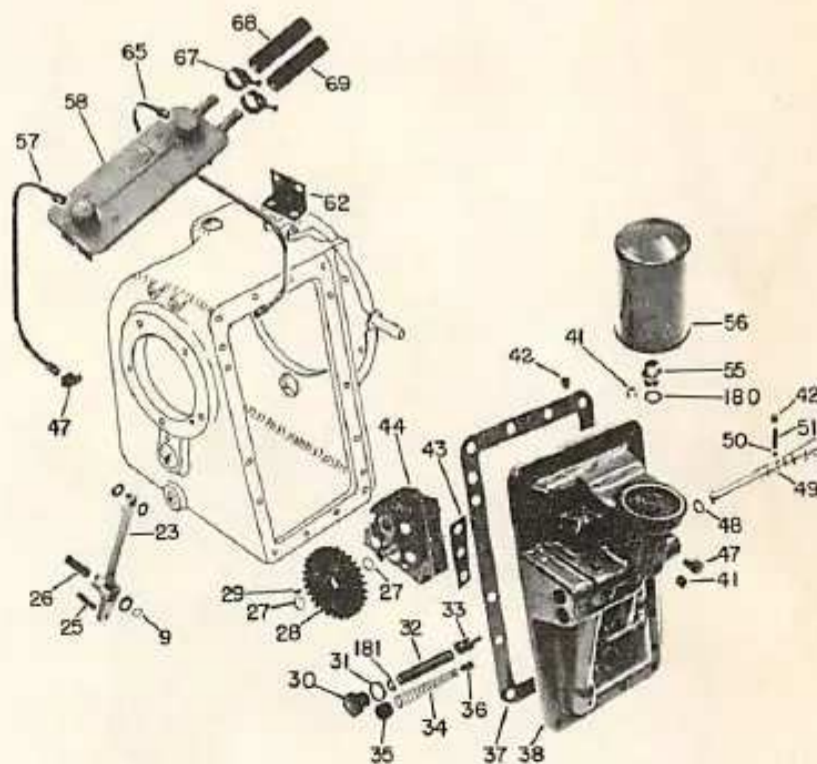

Fig. O106 — Exploded view of the early Hydra-Power drive cover showing component parts. Later cover assemblies are similar.
malfunctions of the unit are evident, add shims (181—Fig. O106) behind the regulator valve spool spring to raise pressure. Shims are 0.0359 thick and each shim will raise the pressure approximately 5 psi.
157. **CONTROL VALVE SPOOL, REGULATOR VALVE AND BY-PASS VALVE.** The control valving can be removed from housing cover as follows: Remove the Allen plug (42—Fig. O106) on top side of control valve bore and remove detent spring (51) and ball (50). Pull control valve spool (49) forward out of its bore, then remove and discard "O" ring. Remove plugs, then remove regulator valve (33) and by-pass valve (36) assemblies. Save any shims (181) which may be present behind the regulator valve spring.